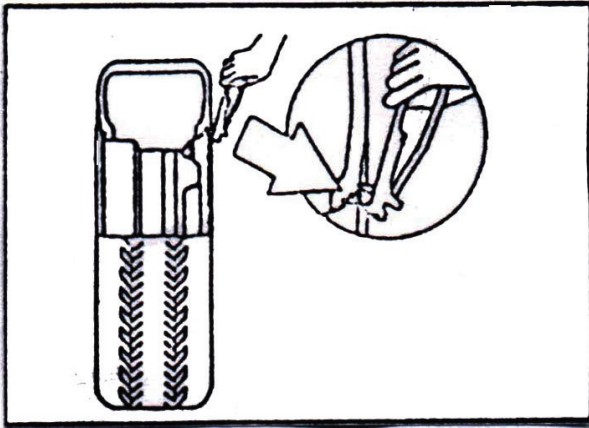

FIG 17
STEP 1: Deflate the air in the tire completely by pulling out the valve stem core. Use the special tool to detach the weight from the wheel (Fig 17).